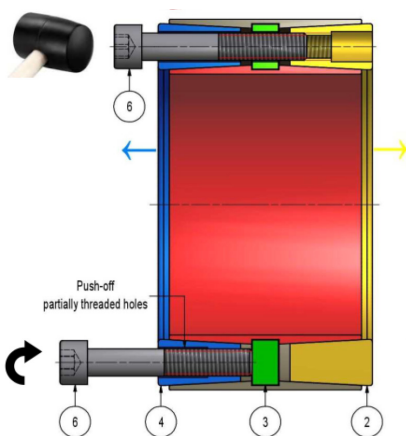

Fig. 2
2. For ease of installation, tapers of thrust rings need to be disengaged (see fig. 2). In order to release the tapers of the front thrust ring, loosen all screws by minimum 2 turns; then transfer and hand tighten at least 2 screws into the push-off threads. In order to release the tapers of the rear thrust ring, slightly tap the head of remaining screws with a hammer.